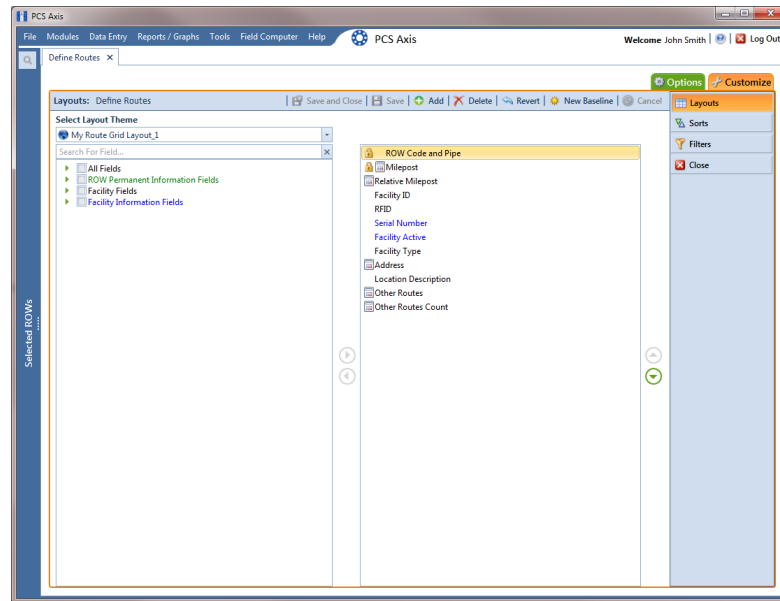

Figure 8-56. Layouts
- 7 Click  **Save** to save changes. The layout theme includes all fields listed in the right pane (Figure 8-56).